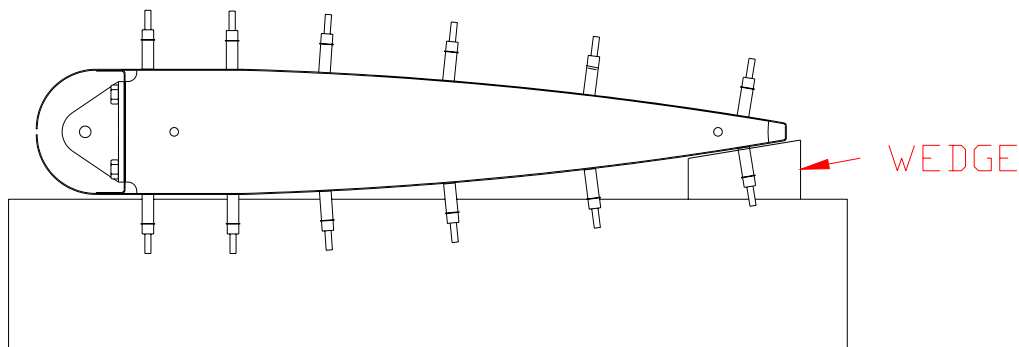

Figure 3.3.2
- 3) Place two 2" x 4" onto the table. Turn the skin and spar assembly over onto the 2" x 4"s so that the clecos do not interfere with the table. Figure 3.3.2. Drill and cleco the Skin to the ribs using the guide holes.